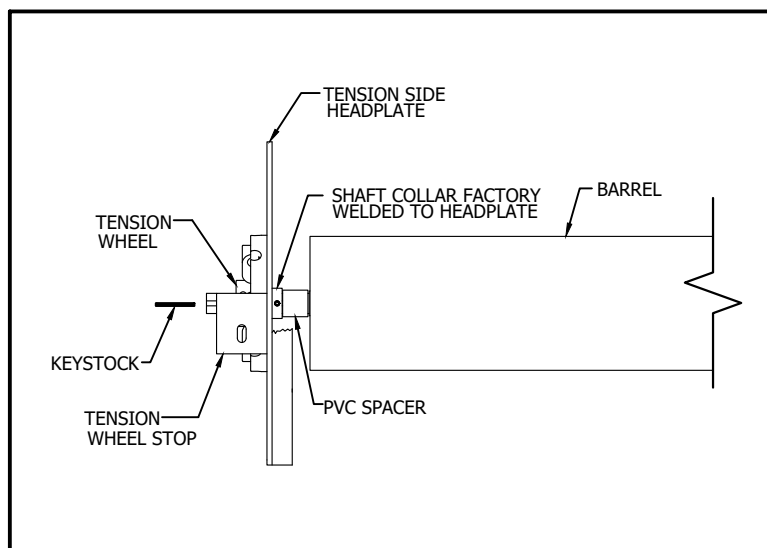

FIGURE 14
- c. Install PVC spacer, headplate, tension wheel and keystock on Tension Shaft as shown in Figure 14. Tighten set screws on Tension wheel.